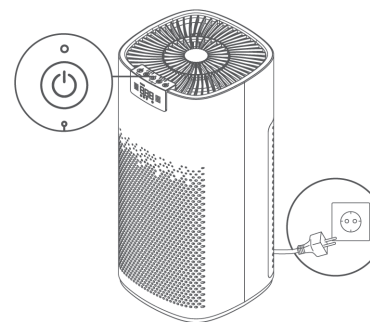

Figure 1
1. Shut down the appliance and turn the power off. (Figure 1)